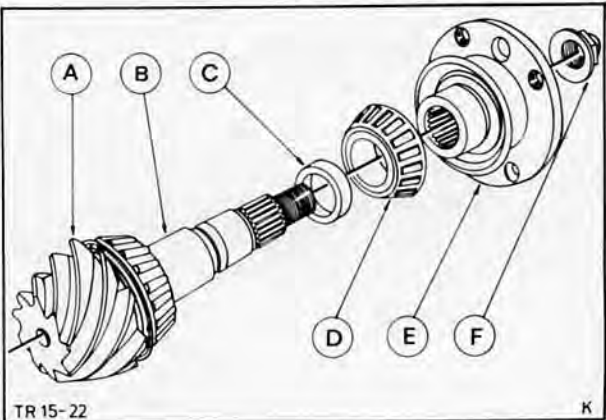

Fig. 49. Assemble complete drive pinion
34. **Check:** Drive pinion torque. To this end, assemble drive pinion with chosen spacer, taper roller bearing, drive pinion flange and old self-locking nut, Fig. 49. Tighten nut to specified torque.